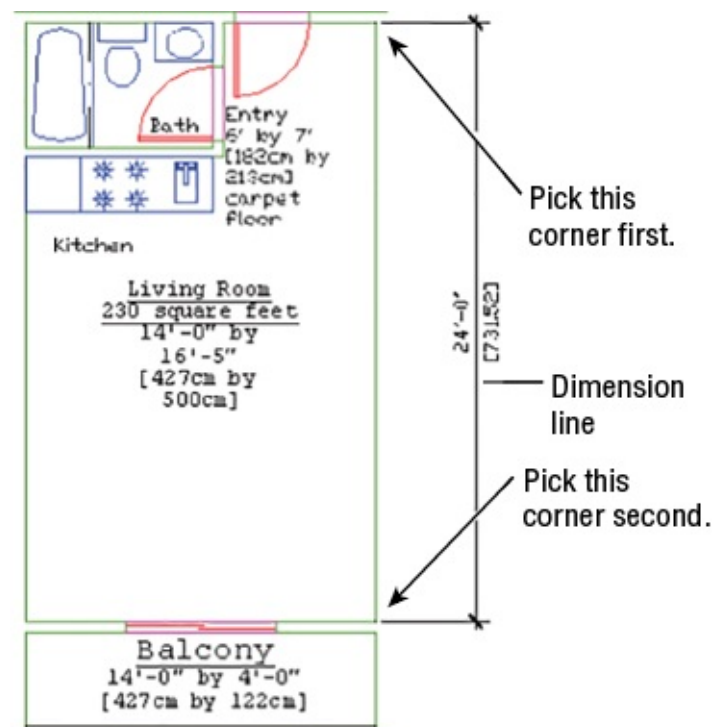

FIGURE 11.13 The dimension line added to the Unit drawing
3. The Specify first extension line origin or <select object>: prompt asks you for the first point of the distance to be dimensioned. An extension line connects the object being dimensioned to the dimension line. Use the Endpoint osnap override, and pick the upper-right corner of the entry, as shown in Figure 11.13.
4. At the Specify second extension line origin: prompt, pick the lower-right corner of the living room, as shown in Figure 11.13.
6. Enter **@4'<0**↵ to tell AutoCAD that you want the dimension line to be 4' to the right of the last point that you selected. Metric users should enter **@122<0**↵. (You could pick a point by using your cursor, but this doesn't let you place the dimension line as accurately.) After you've done this, the dimension is placed in the drawing as shown in Figure 11.13.